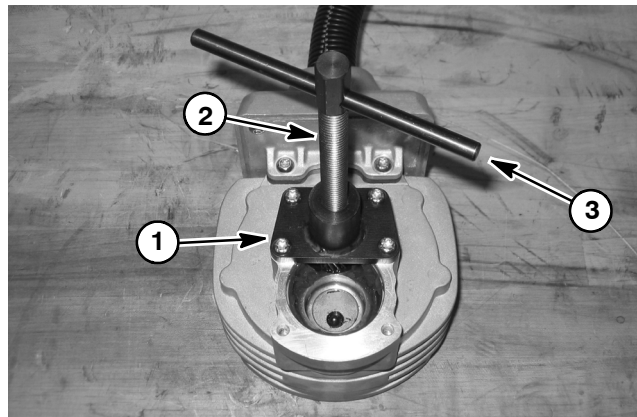

Figure 6
The rotor tool set for the cutting reel motor is required to remove and install the rotor from the reel motor housing. Tool set includes puller hub, threaded shaft, handle and four (4) screws (Fig. 6).